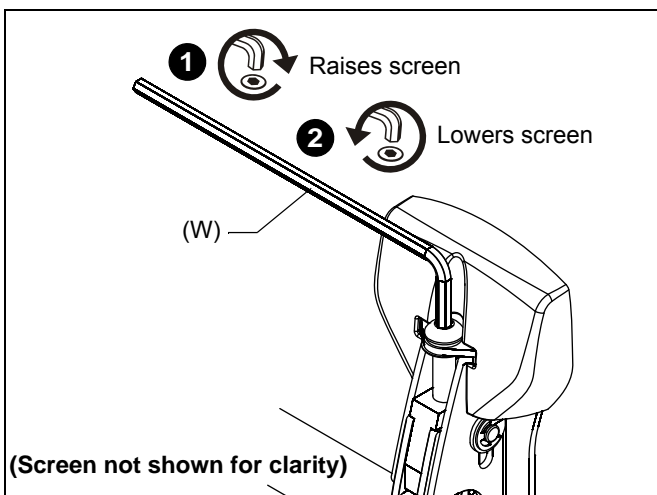

Figure 14
1. Turn to right (tighten) to raise side of screen. (See Figure 14)